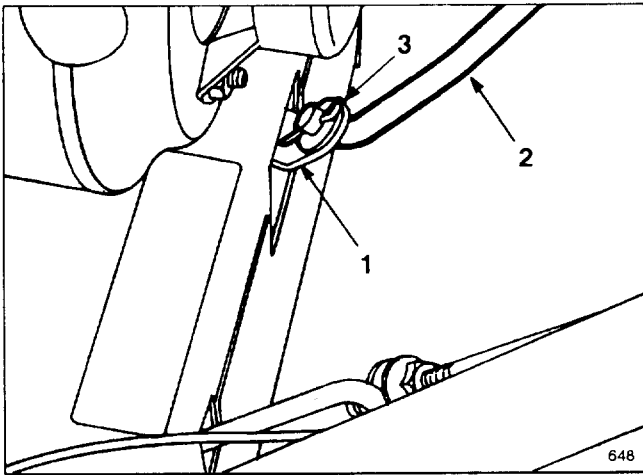
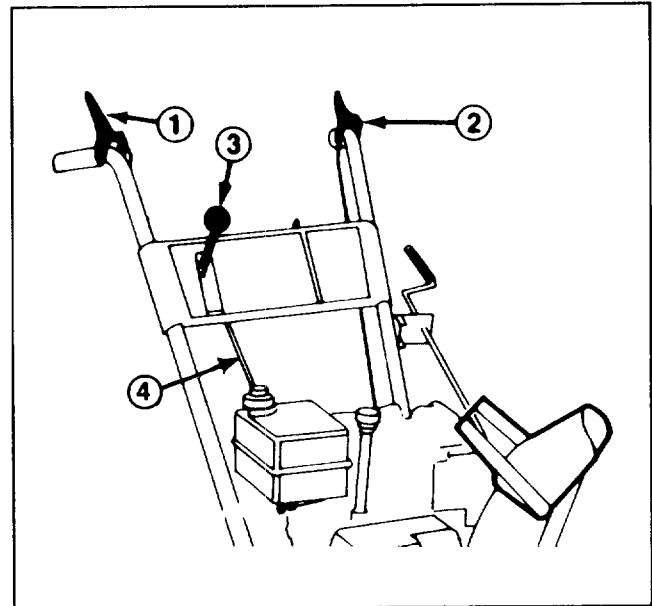

Figure 4
Figure 6
1. Pull speed selector arm (Fig. 4) to the fully "out" position and move speed selector (Fig. 6) on control panel to the R (REVERSE) position to ease assembly.
2. Install speed selector rod into selector arm, add one flat washer on the selector rod and secure with cotter pin (Fig. 4).
4. Adjust the two flange nuts up or down on the traction control rod until the distance between the top of the handgrip and the bottom of the traction control lever (Figs. 6 and 7) is approximately four inches. **This is a preliminary setting only.** Tighten the two flange nuts finger tight.
5. Move speed selector (Fig. 6) into third gear.
3. Check the distance between the top of the handgrip and the bottom of the auger control lever (Fig. 6 & 9). Distance should be approximately four inches. **This is a preliminary setting only.**